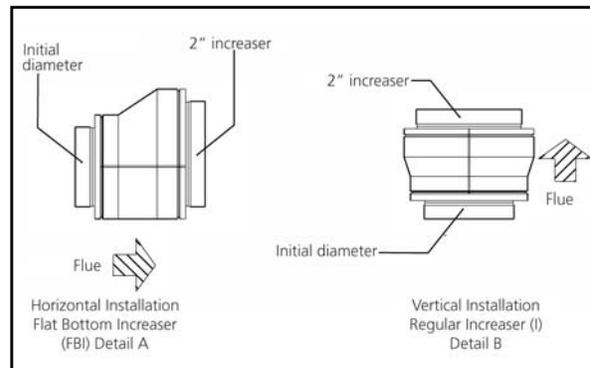

Figure B-5 - 2" Diameter Increaser
3. The assembly includes a Finishing Band (FB), Assembly Band (AB) and insulation strip (where applicable). Joint assembly for the tee, elbow, Tee Cap (TC) and connection to the pipe sections is done in the same manner as described in Section A, Piping and Fitting Assembly.
4. A Tee Cap (TC) or Drain-Tee Cap (DC) may be used to block one of the openings for purposes of cleaning, inspection, or drainage.
5. When used for drainage purposes, the Drain-Tee Cap (DC) is installed at the base of the tee and is piped to a suitable drain (3/4" diameter) and serves to collect rain or condensation water (see Fig. B-5).
3. The Increaser (I) includes a transition section tapered at a 14° angle, which provides a lower friction loss coefficient (see Fig.B-5).
4. Larger diameter Increasers (I) are available on order or as specified. The angle of the Increaser (I) is standard but the length of the fitting varies depending on the diameter to be increased.
5. Joint assembly between the Increaser (I) and the vent is done in the same manner as described in Section A Piping and Fitting Assembly.